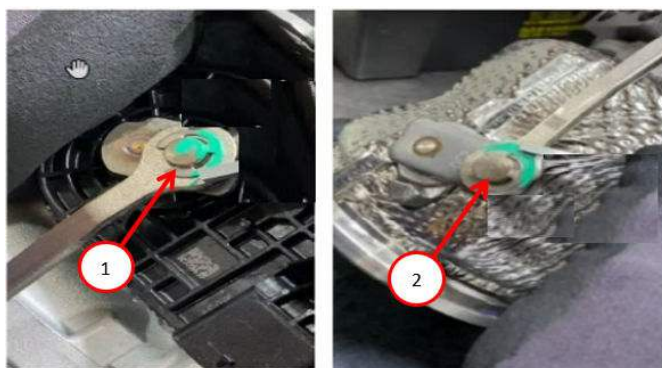

Fig. 1
3. Using a caliper, measure the dimensions of the two wastegate rod retaining clips on the actuator side Fig. 1.
6. Using a caliper, measure the dimensions of the two wastegate rod retaining clips on the housing side Fig. 1.